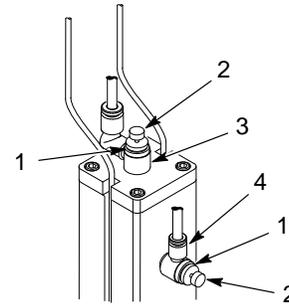

Figure 4 Adjusting a Control Valve
1. See Figure 4. Loosen the locking collar (1) on the dispense valve (3).
2. Turn the knob (2) clockwise until it bottoms out into the dispense valve (3). Back out the knob 2 turns.
3. Tighten the locking collar (1) securely.
4. Perform steps 1 through 3 for the load control valve (4).